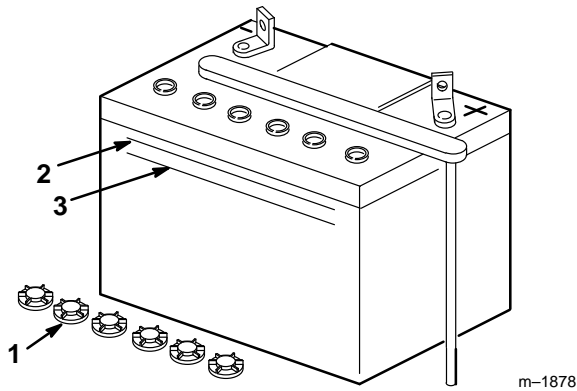

Figure 21
2. Look at the side of the battery. The electrolyte must be up to the “UPPER” line (Fig. 21). Do not allow the electrolyte to get below the “LOWER” line (Fig. 21).
2. Unscrew the filler caps (Fig. 21).
3. Slowly pour distilled water into each battery cell until the level is up to the “UPPER” line (Fig. 21) on the battery case.